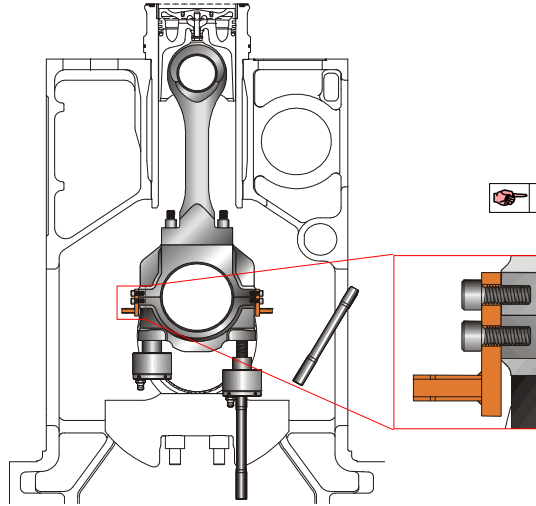

Fig. 1 Installing of holding support on big end parts
1. Turn the crankshaft to TDC as shown in fig. 1.